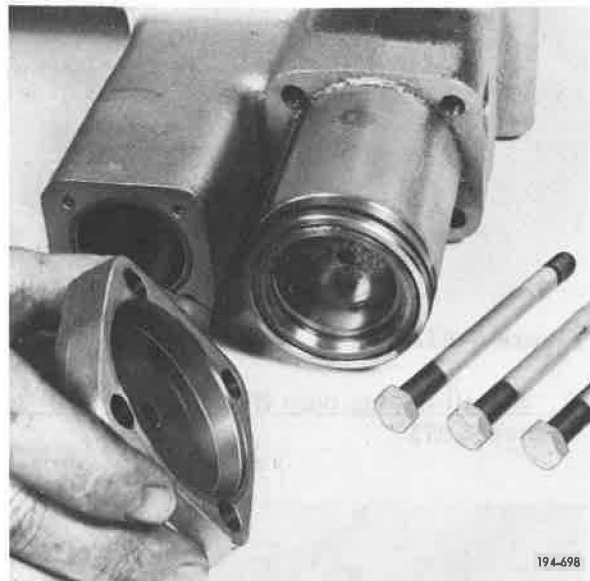

Figure 5-881. Installing Cover
15. Install Hi/Direct shift cover onto Hi/Direct shift cylinder. See **Figure 5-881**.